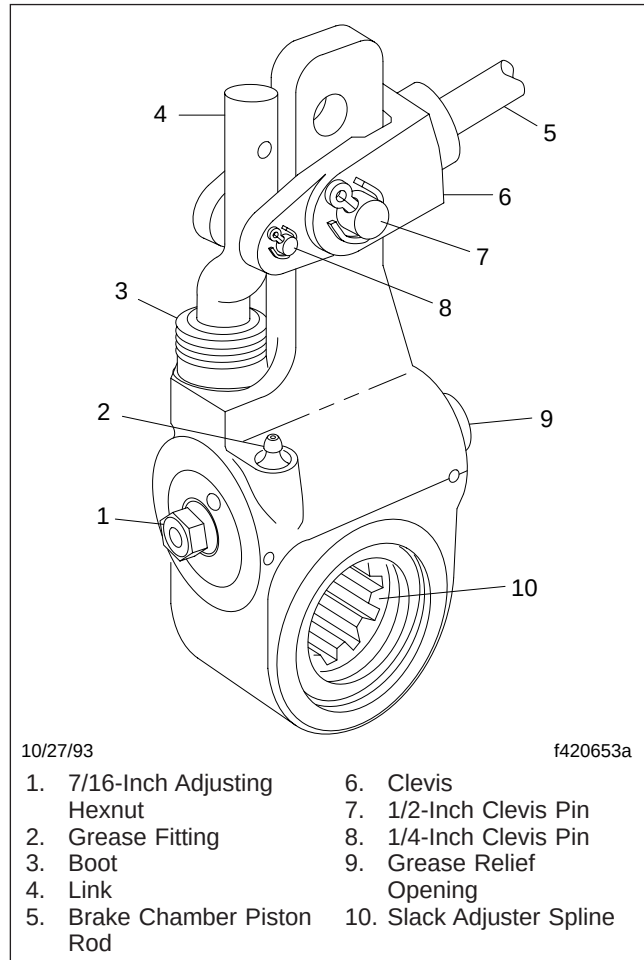

Fig. 10, Gunite Automatic Slack Adjuster
Lubricate the slack adjuster until grease flows from the grease relief opening. See **Fig. 10**. For temperatures to -40°F (-40°C), use Lubriplate Aero; for temperatures to -20°F (-29°C), use Texaco Multifak EP-2 or Mobil Grease No. 77.
2. Inspect the slack adjuster boot for cuts or tears. If the boot is damaged, replace it (see **Fig. 10**).
- 5.1 Turn the adjusting hexnut three-quarters of a turn counterclockwise. See Fig. 10.